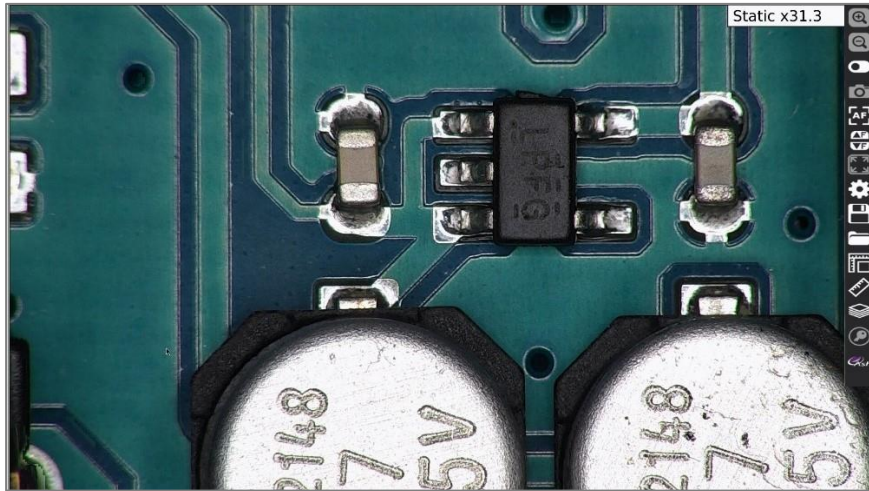

Fig. 21
4. When you are satisfied with the settings, click the **Start** button (C) and the Inspec 3 will start processing the image.
- 5. The processed image will now be displayed in static form with all components (heights) in-focus (Fig.21).